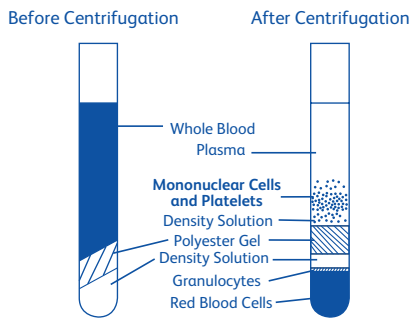

Figure 2
- After centrifugation, mononuclear cells and platelets will be in a whitish layer just under the plasma layer (see Figure 2). Aspirate approximately half of the plasma without disturbing the cell layer. Collect cell layer with a Pasteur pipette and transfer to a 15 mL size conical centrifuge tube with cap. Collection of cells immediately following centrifugation will yield best results.